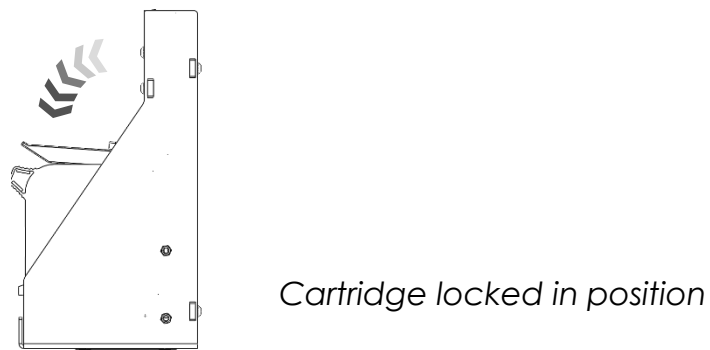

Figure 23
- Close the latch and lock the cartridge in place as shown in Figure 23.